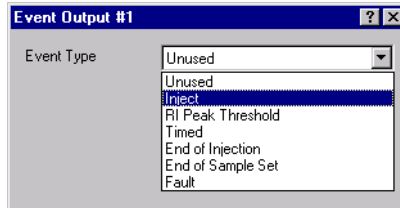

Figure 3-11 Selecting the Event Output Type
- b. Select an event type from the Event Type list (Figure 3-11).